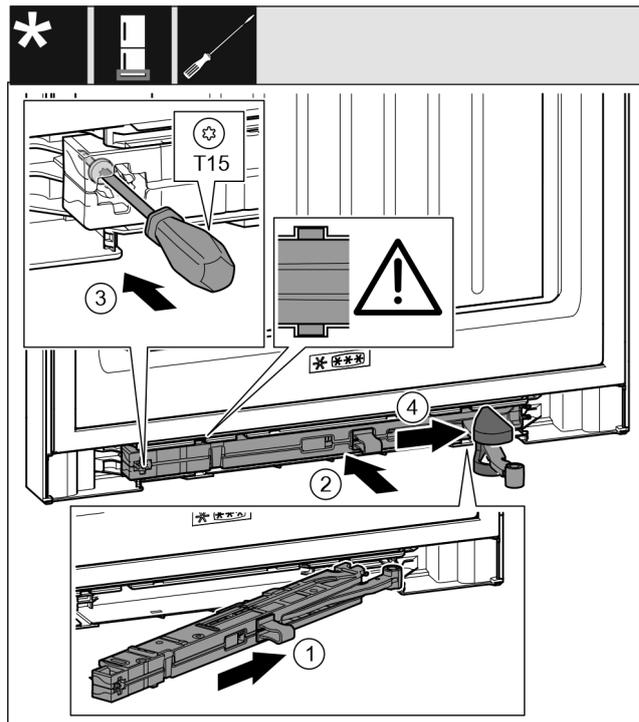

Fig. 57
- ▶ On the swap bearing block side, slide the closing damper unit *Fig. 57 (1)* into the recess at an angle up to the stop.
- ▶ Push the closing damper unit *Fig. 57 (2)* into the recess completely.
- ▶ Use a screwdriver to tighten the screw *Fig. 57 (3)*.
- ▶ Push the cover *Fig. 57 (4)* over the joint.